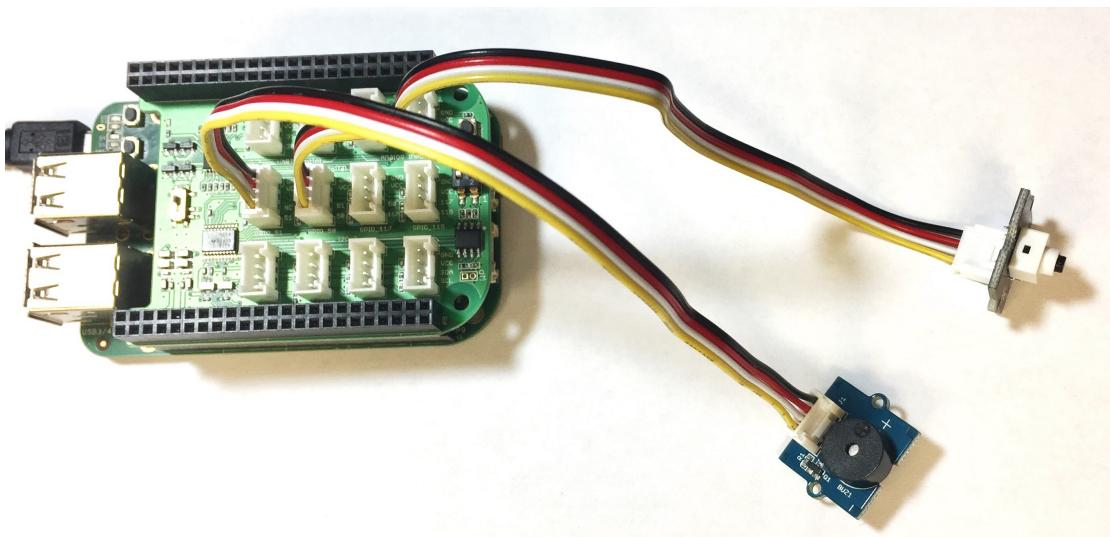

Figure 4: Hardware configuration to demonstrate generation of signals using a button press
2. Connect a buzzer to GPIO_51 and a button to GPIO_50 as shown in Figure 4.